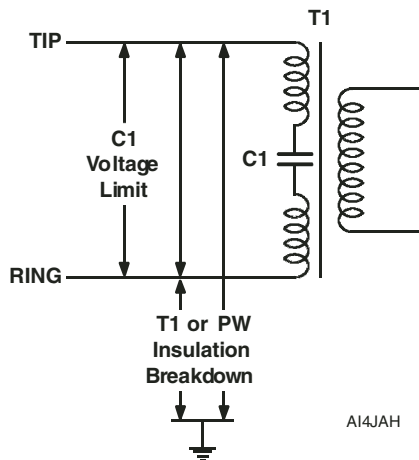

Figure 16. ADSL Modem Interface Voltage Limitations
These designs are for special needs, where the RING to TIP protection voltage must be different to the RING to GROUND and TIP to GROUND voltages. ADSL modem interfaces often have a need for asymmetric voltage limiting, see Figure 16. Here, the RING to TIP voltage limitation is given by the d.c. blocking capacitor, C1, and the RING to GROUND and TIP to GROUND limitation is insulation breakdown. Often the breakdown limit is set by the spacing of the PW (Printed Wiring) tracks. Figure 17 shows a solution. Using two ±165 V V_(BO) parts for Th1a and Th1b, the RING to TIP voltage is limited to ±330 V. Using a higher voltage ±350 V V_(BO) part for Th2 limits the insulation stress to ±15 V. Figure 17 and its following table is for a GR-1089-CORE compliant design.